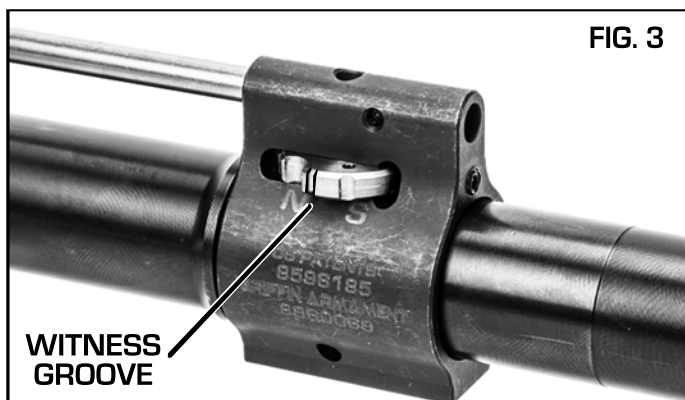

FIG. 3
2. There are two large half-moon cutouts on the radial edge of the regulator plate. One of these notches will have 2 witness grooves cut next to the half moon (FIGS 3 & 4) for distinguishing between side 1 & 2. Looking from the right side of the firearm, the half moon notch will line up with either the N for Normal, or the S for Suppressed. This denotes which setting the rifle is currently in. Rotate the plate between these two positions to change settings on the fly.